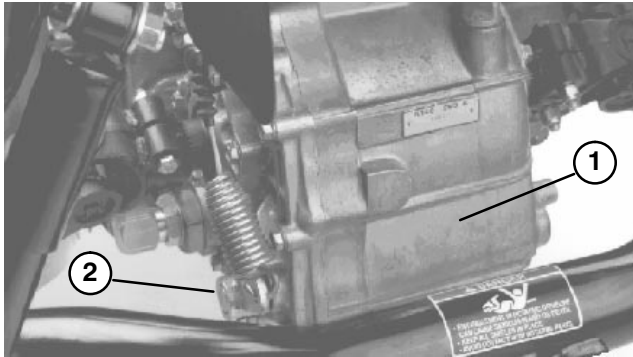

Figure 34
CHANGING TRANSAXLE / HYDRAULIC FLUID (Fig. 34)
2. Remove drain plug (Fig. 34) from side of reservoir and let hydraulic fluid flow into drain pan.